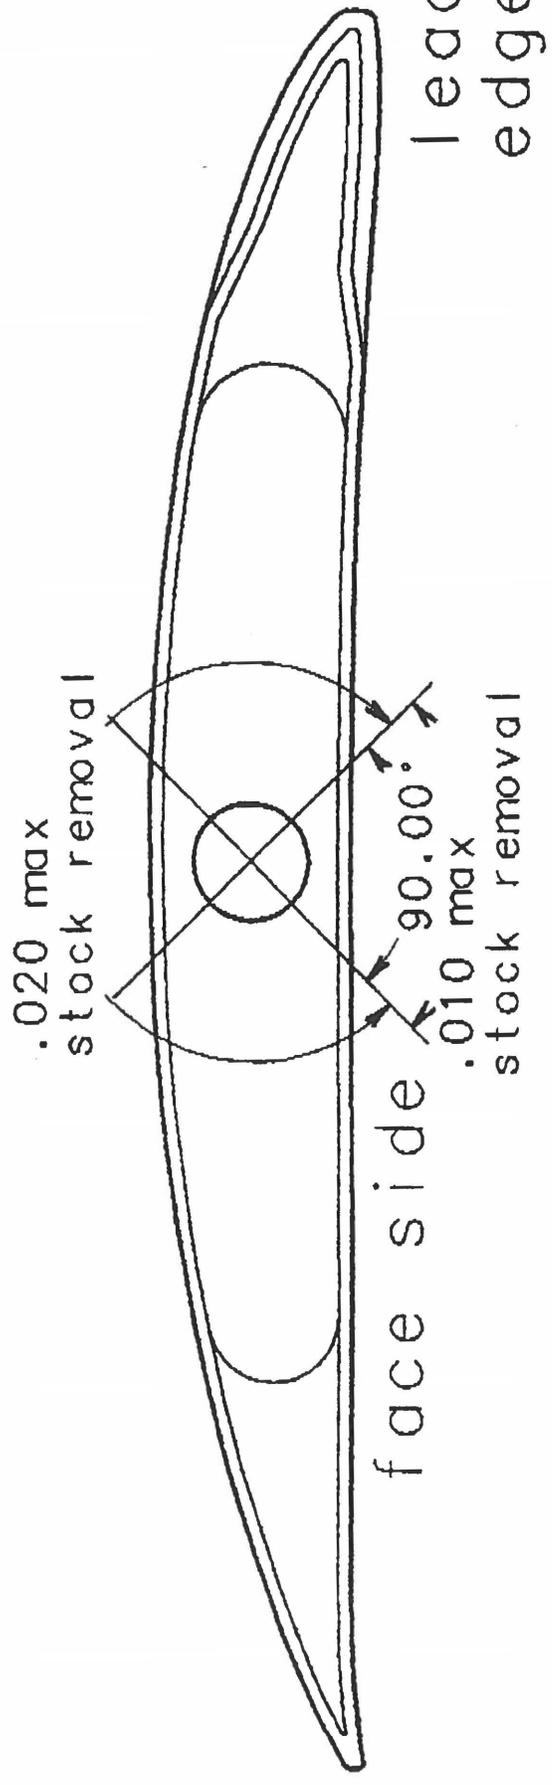

Figure 1. Maximum Permissible Taper Bore Stock Removal
- 2) Locally blend mechanical damage to 50 times the repair depth. Repair limits are 0.010" maximum stock removal for the face area, 0.020" maximum stock removal for all other areas, including end of taper bore. When the blending is complete, no evidence of damage may remain. Reference Figure 1 (page 3) for definition of face area at any taper bore location.